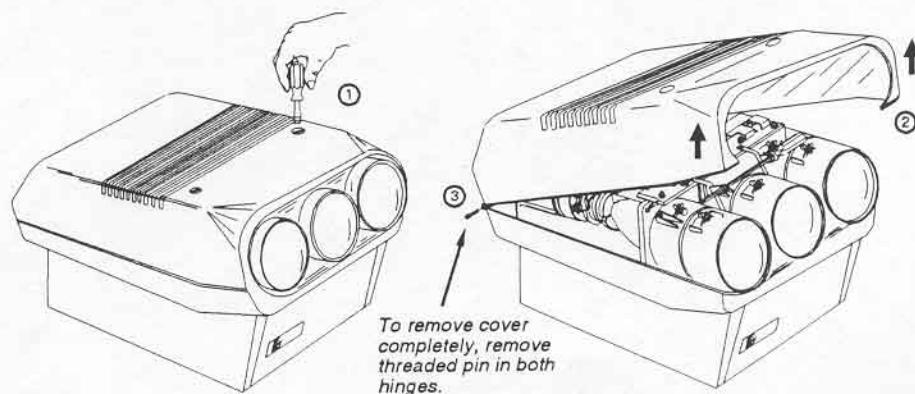

Figure 5-2. Cover Removal
- Locate the two slot head fasteners on the projector's top cover. Using a large slot screw driver, turn the head of each fastener approximately 3 turns counter-clockwise. See Figure 5-2. At the front of the projector, grasp adjacent sides of the top cover and gently lift it away from the projector body. The cover hinges at the rear.